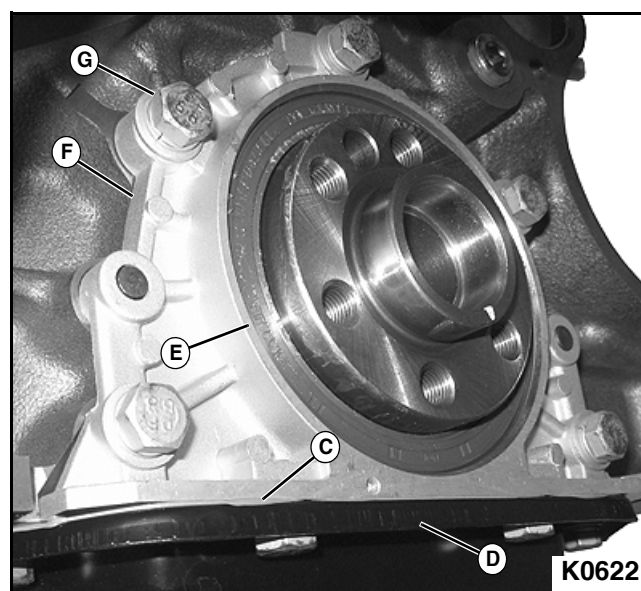

Figure 3-93
3. Run a 3 mm bead of sealant (C) along the top center of the engine oil pan flange (D). **See Figure 3-93.**
4. Lubricate lip of rear crankshaft seal (E) and crankshaft with clean engine oil.
5. Carefully install rear crankshaft seal retainer assembly (F) over crankshaft.
6. Secure rear crankshaft seal retainer to cylinder block with five mounting bolts, flat washers, and lock washers (G). Torque bolts to specification.